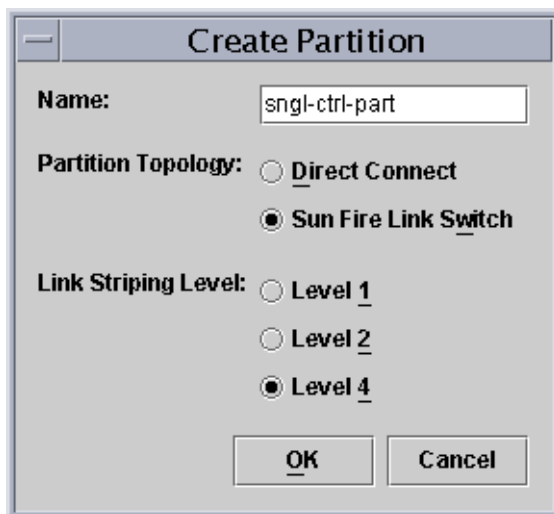

FIGURE 6-6 Create Partition Dialog
2. **Fill in the Create Partition fields and click OK when finished.** See FIGURE 6-6.